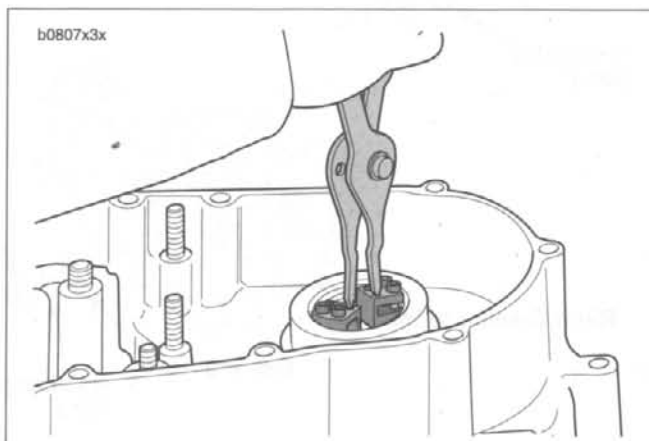

Figure 3-131. Remove Snap-Ring From Crankcase Bore
- e. See Figure 3-131. Inserting the tips of a large retaining ring pliers (Snap-On PR-56A) into one hole in each claw, compress the retaining ring and remove it from the crankcase bore.